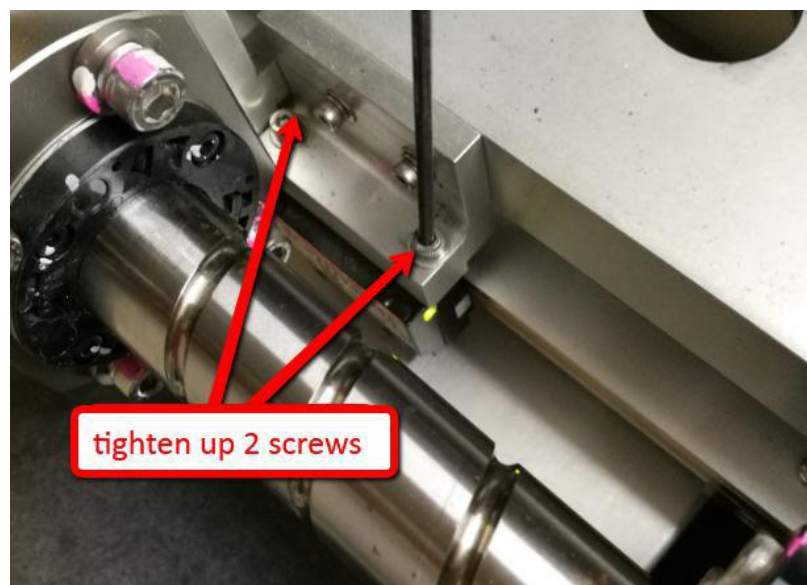

Figure 8 X axis encoder replacement
4. Assemble X axis encoder & tighten 2 screws as shown in Figure 8.